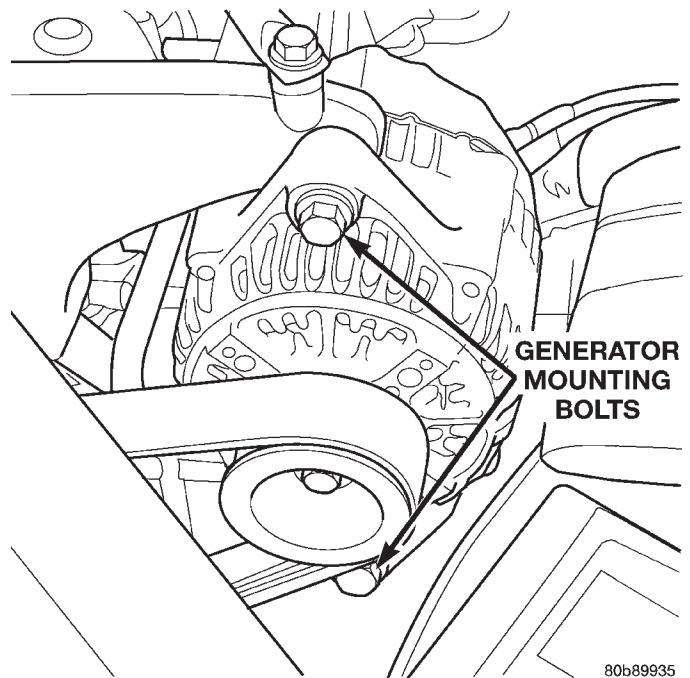
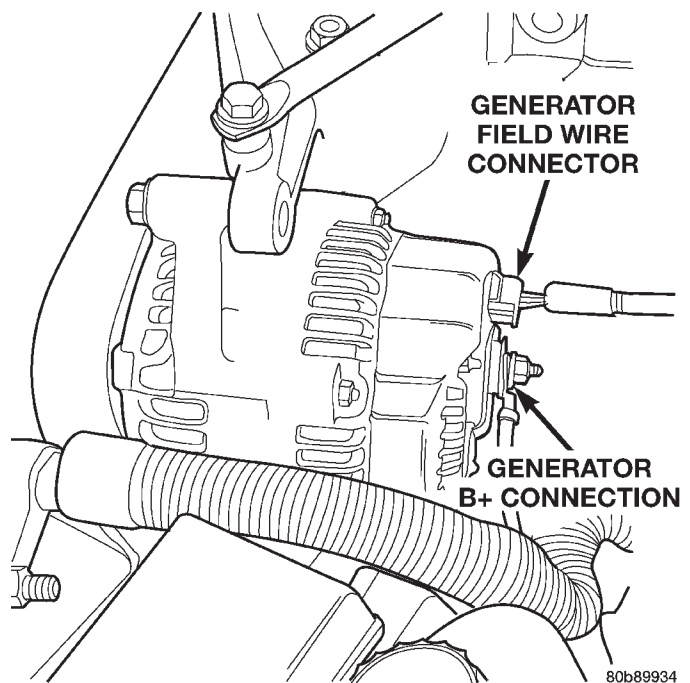

Fig. 3 Generator Mounting
Fig. 4 Generator Terminals
(1) Install the generator into the generator bracket.
(2) Install the lower generator mounting bolt (Fig. 3).
(3) Install the upper generator mounting bolt (Fig. 3).
(4) Tighten the mounting bolts to proper torque.
(5) Connect the field terminal connector at rear of generator (Fig. 4).
(6) Connect the battery output cable to the B+ terminal at rear of the generator (Fig. 4).
(7) Install the accessory drive belt. Refer to Group 7, Cooling System for procedure.